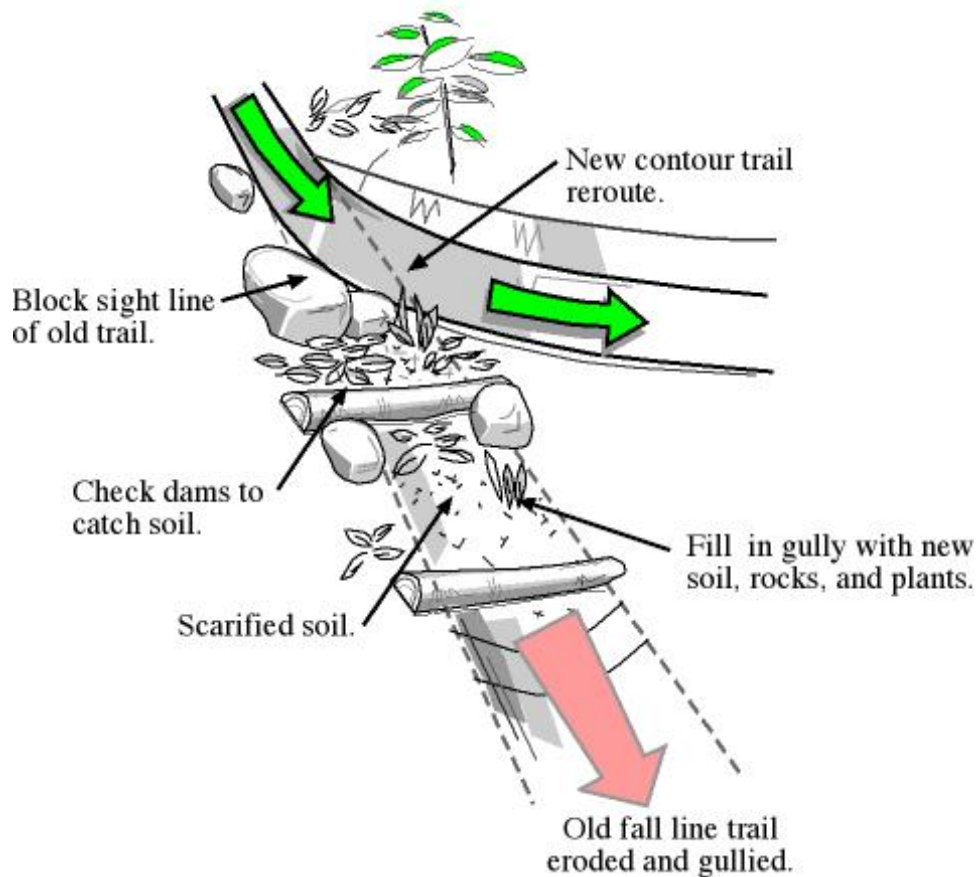

Figure 13: Trail Closure
3.14 Trail Closure (figure 13)